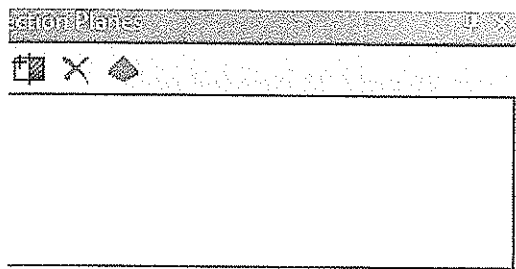

Figure 7-25 The Section Planes window displayed
- 1. Choose the **New Section Plane** tool from the **Graphics** toolbar; the **Section Planes** window is displayed, as shown in Figure 7-25.